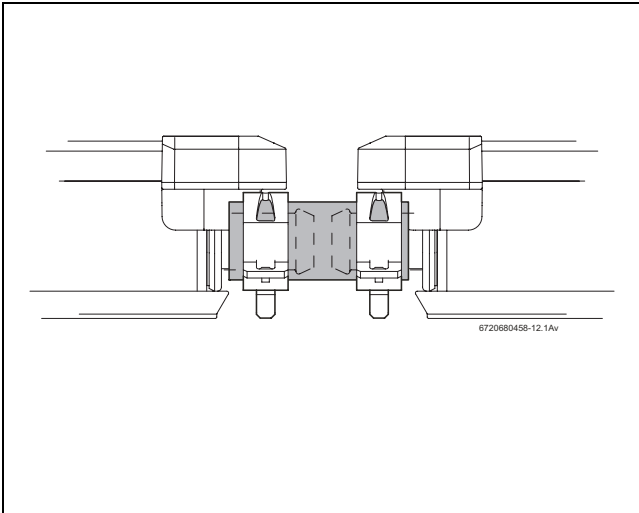

Fig. 42 Solar hose with secured hose clips
- ▶ Secure solar hoses to the collector connection with a hose clip (Fig. 42).